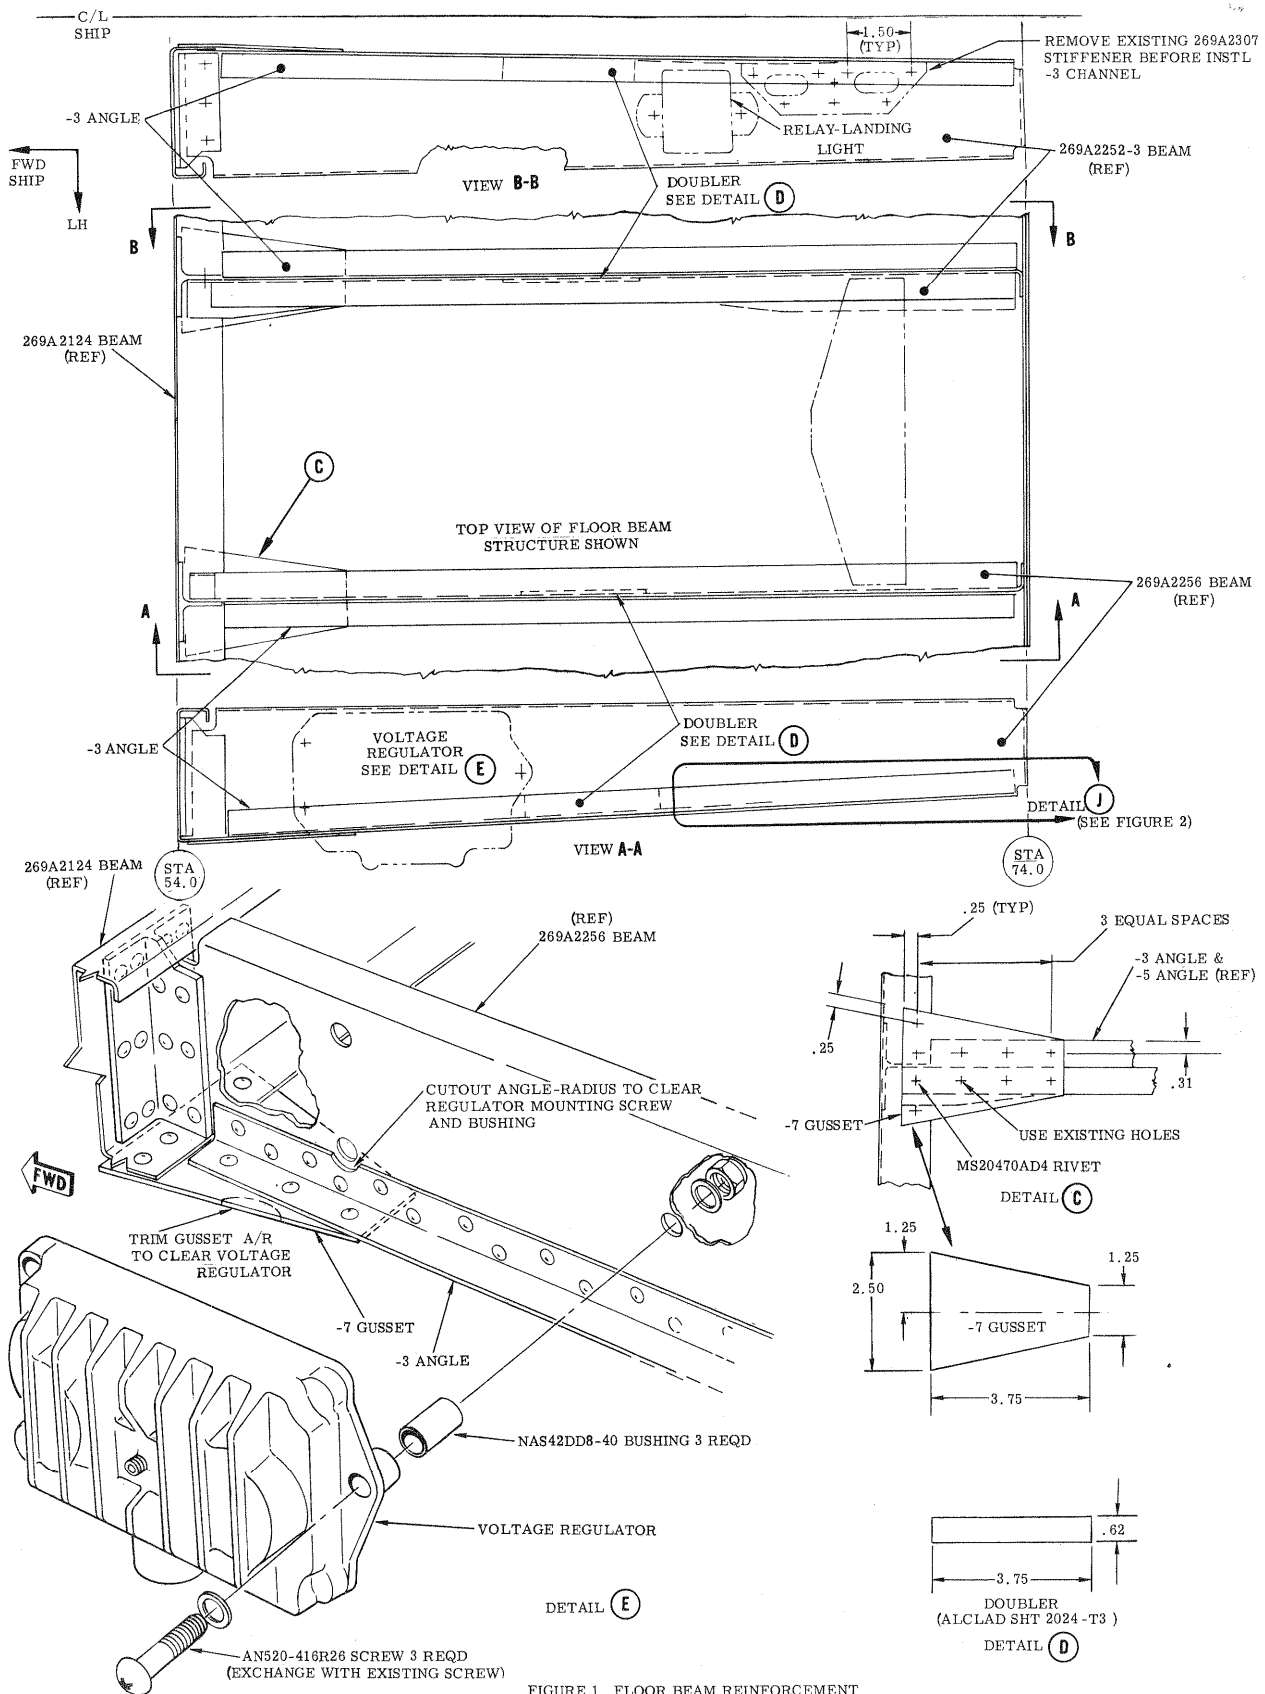
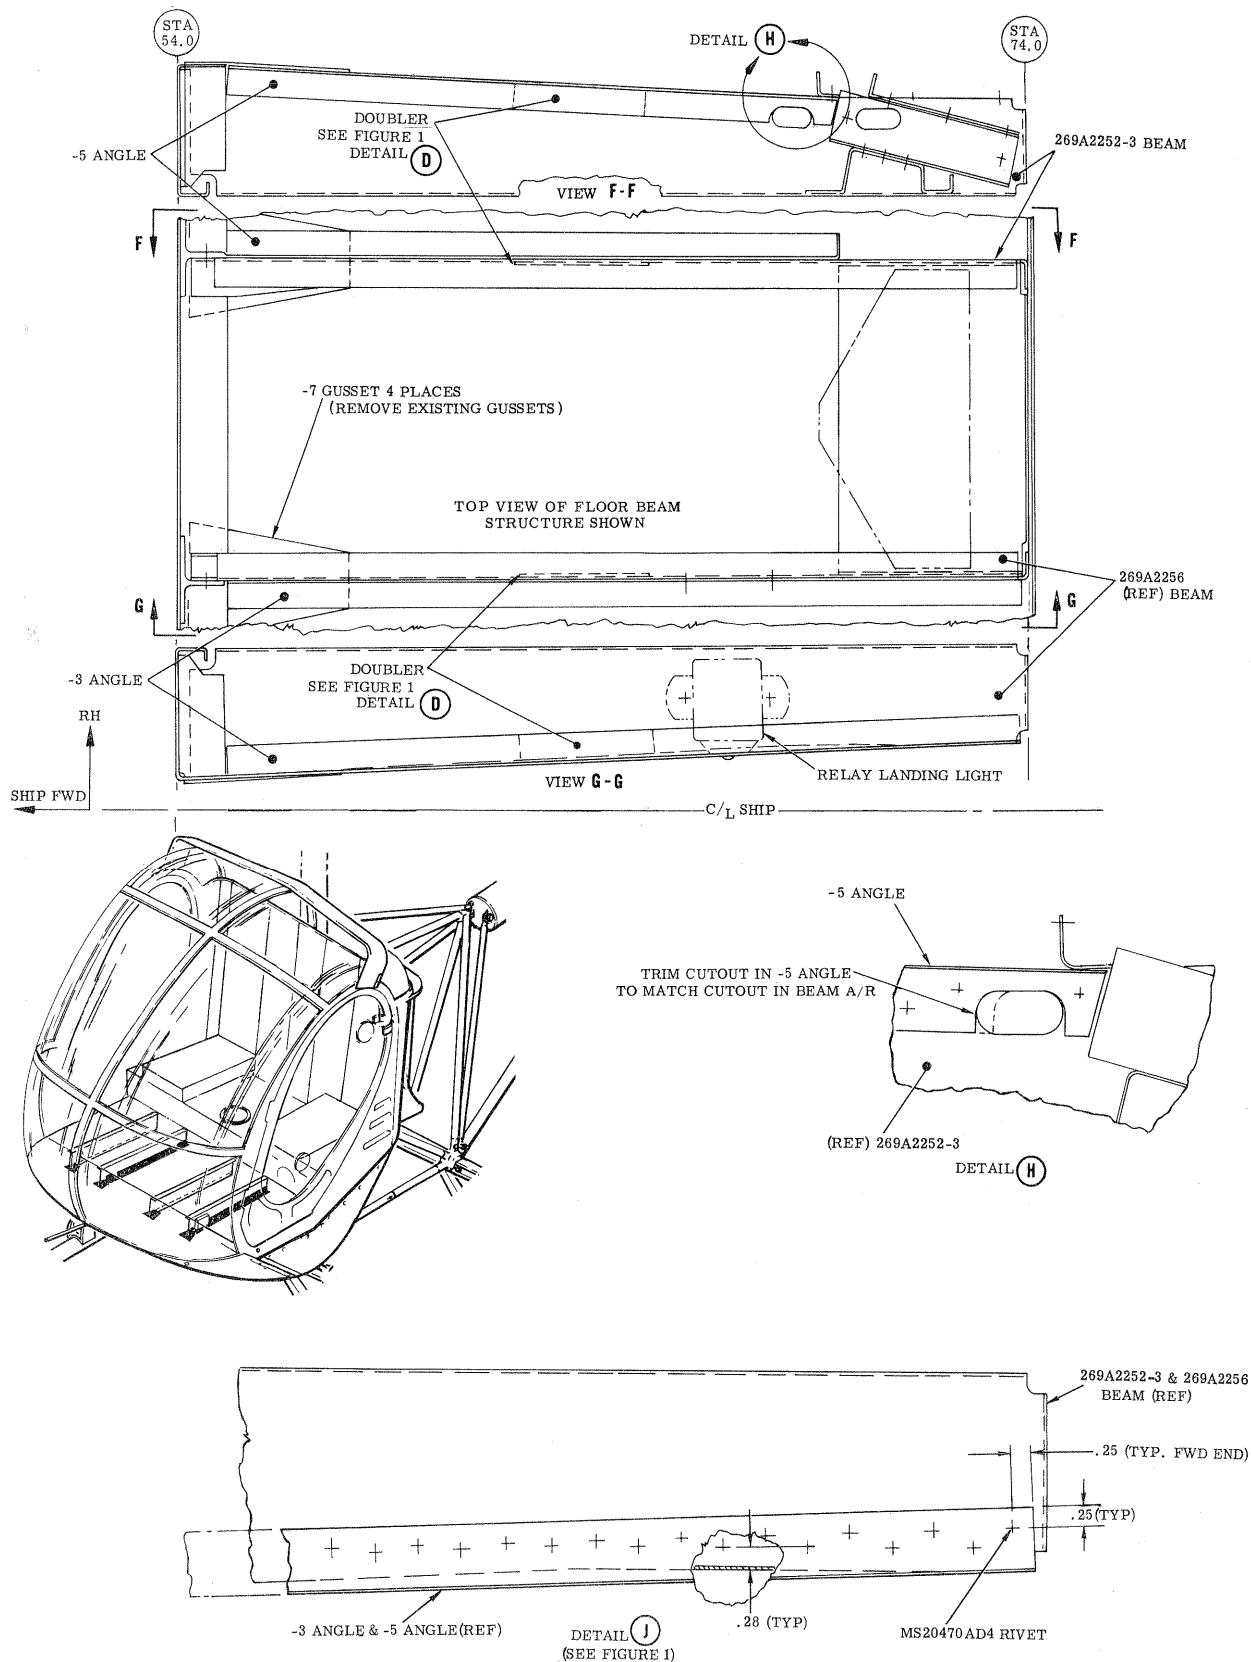

FIGURE 1. FLOOR BEAM REINFORCEMENT
FIGURE 2. FLOOR BEAM REINFORCEMENT
- b. Remove landing light relay installed on 2252-3 beam (LH side) (Refer to Figure 1). or 2256 beam (RH side) (Refer to Figure 2). Also remove radio power supply unit, if presently installed on beams.
- c. Remove voltage regulator installed on 2256 beam (LH side). (Refer to Figure 1).
j. Position -7 gusset (4 places) as shown at junction of 2124 and 2252-3 beams and 2124 and 2256 beams. Mark and drill holes in beams and install gussets with rivets. Use existing rivet holes in beams. (Refer to Figure 1).